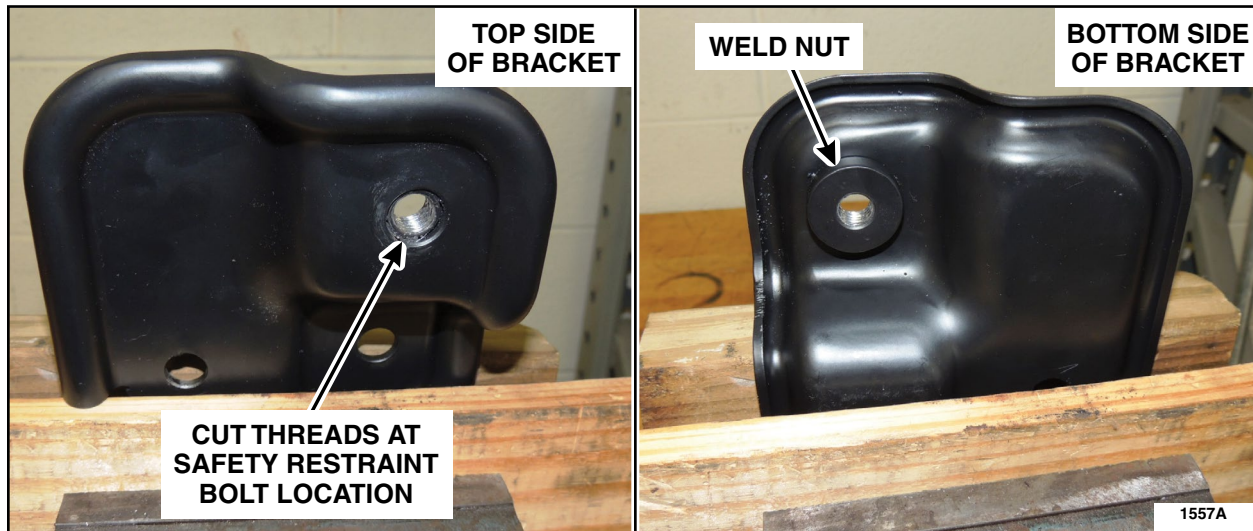

FIGURE 3
2. Use the *new* restraint bolts and an impact wrench to cut threads into the weld nut from the top side of each bracket. **DO NOT** allow the shoulder of the bolt to contact the bracket during this step. Use a bench vice to carefully secure the brackets during the thread cutting process. See Figure 3.